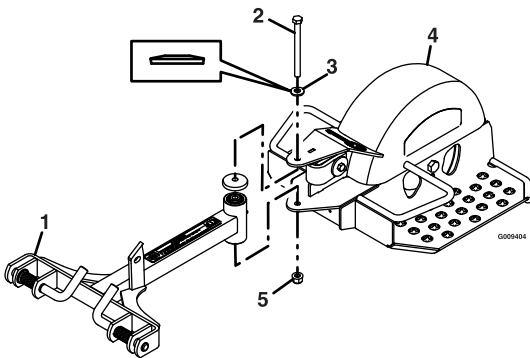

Figure 11
- 3. Locate the sulky frame assembly and align with the pull arm assembly. Re-install the 3/8-16 x 4 3/4 inch hex capscrew, spring disc washer, and 3/8-16 inch hex flange side lock nut removed in step 1 as shown in Figure 11. Torque to 35-38 ft-lb (47-52 N-m).